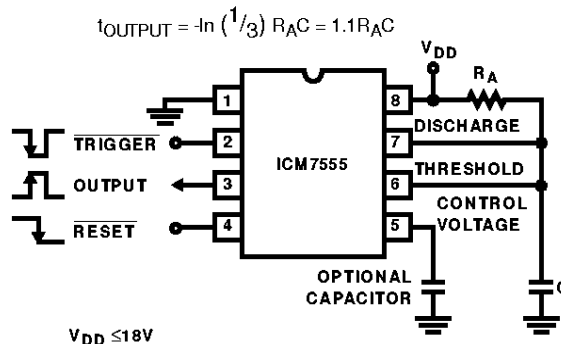

FIGURE 3. MONOSTABLE OPERATION
In this mode of operation, the timer functions as a one-shot, see Figure 3. Initially the external capacitor (C) is held discharged by a transistor inside the timer. Upon application of a negative TRIGGER pulse to pin 2, the internal flip-flop is set which releases the short circuit across the external capacitor and drives the OUTPUT high. The voltage across the capacitor now increases exponentially with a time constant  $t = R_A C$ . When the voltage across the capacitor equals  $2/3 V+$ , the comparator resets the flip-flop, which in turn discharges the capacitor rapidly and also drives the OUTPUT to its low state. TRIGGER must return to a high state before the OUTPUT can return to a low state.